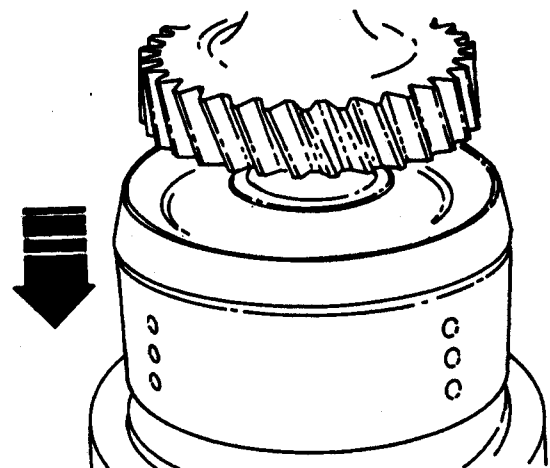

Figure 46.
7. Knock the clutch on a piece of aluminum (or wood) to remove the piston. See Figure 46.